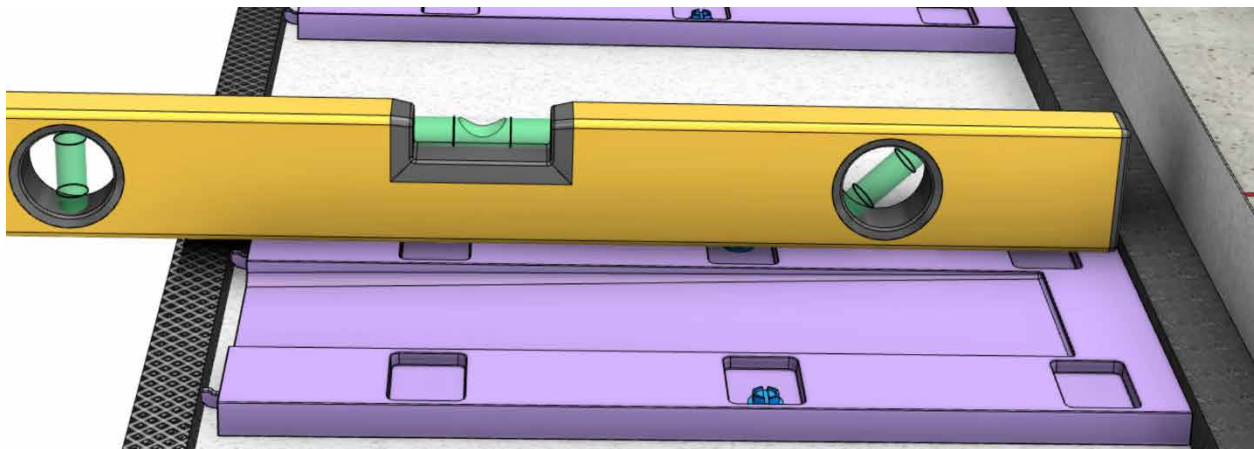

Fig 17
- Check the level of each drainage shim to ensure it is level interior to exterior (Fig. 17).